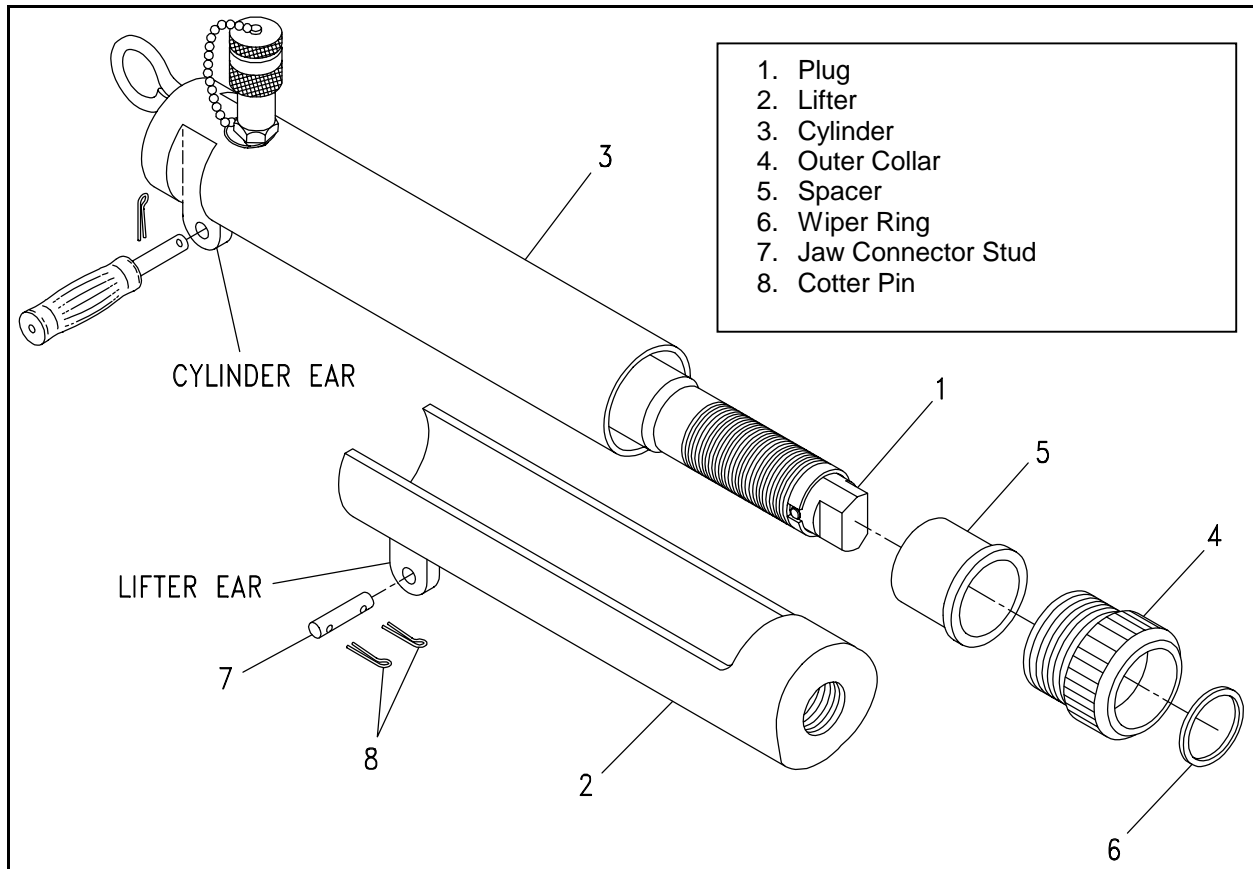

Figure B-2. Cylinder Spacer and Cylinder Adjustment.
When the bar stock cutter is being used, a spacer is required inside the cylinder. Conversely, when the nut splitter is being used, the spacer is not used inside the cylinder. To verify the presence of a spacer or to install or remove a spacer, see Figure B-2, and use the following procedures:
- Using an appropriate wrench, turn plug (1, Figure B-2) counterclockwise, to separate lifter (2) from cylinder (3).
- Remove outer collar (4).
- Verify, install or remove spacer (5).
- Replace outer collar (4), ensuring wiper ring (6) is in place.
- Replace lifter (2) on cylinder (3), turning the plug (1) clockwise.